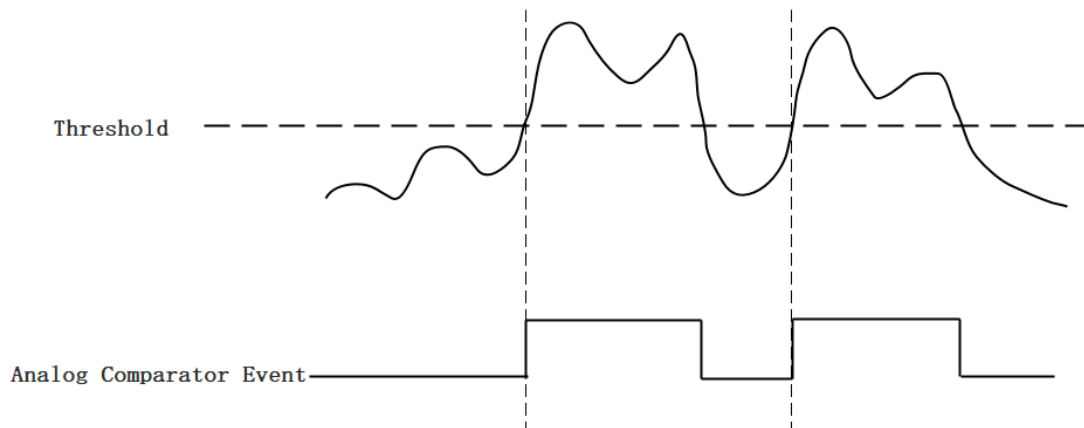

Figure 43 Rising Slope Trigger
***Rising Slope Trigger:*** The Edge comparator output is high when the signal goes above the threshold; the output is low when the signal goes below the threshold as shown in Figure 43.